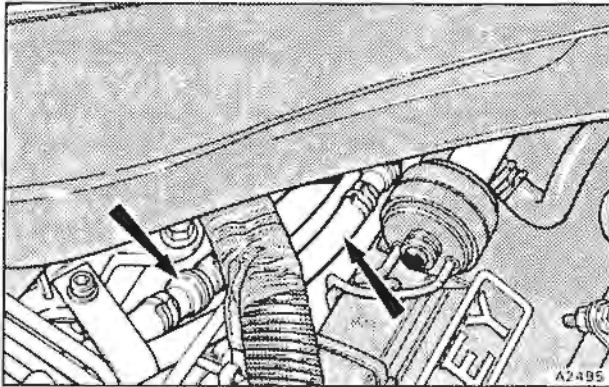

Fig. J3-3 Dump valve signal hoses
- c) Small diameter signal hoses to the dump valve (see fig. J3-3).